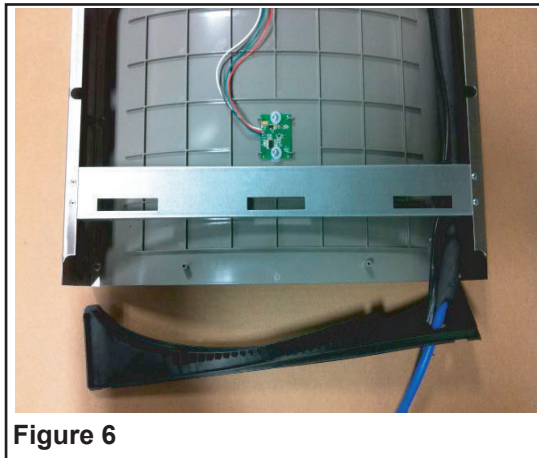

Figure 6
5. Feed power cord & 3/8" water line through hole in tower/basin gasket (See Fig 6).